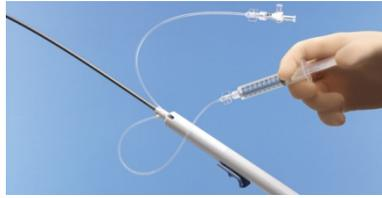

Figure 5
5. Attach a stopcock to the first flush port. Attach a 10-mL syringe filled with saline to the stopcock on the first flush port and flush. Repeat step for the second flush port on the catheter (Figure 5).